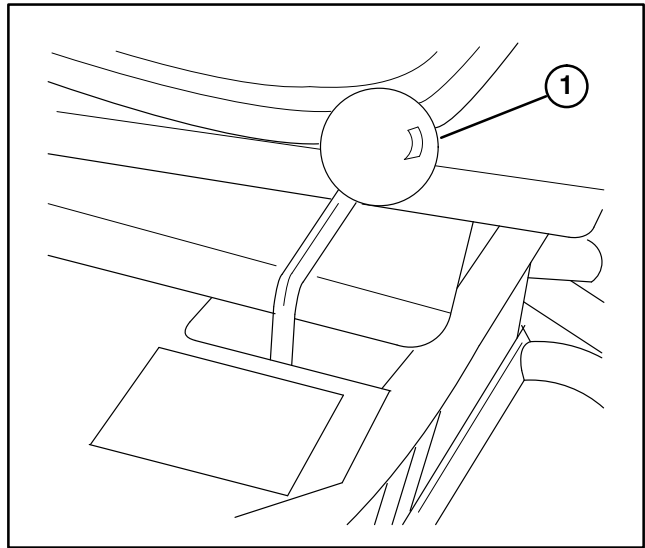

**Figure 20**
**MOW LOCKOUT LEVER** (Fig. 20) – Lockout lever locks mow pedal preventing accidental starting of cutting units. To unlock, pull mow lockout pin outward, rotate clockwise and insert end into rear hole in bracket.